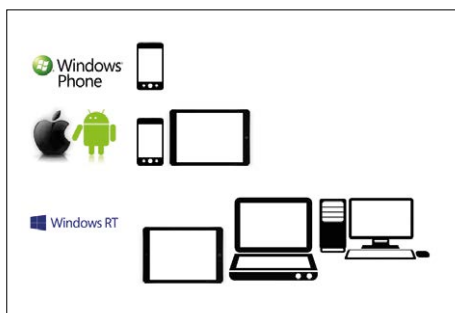

Figure 1. Operating systems for apps and their target platforms.
book) with a current version of the Windows operating system, where it runs more or less in parallel with the conventional Windows desktop OS (**Figure 1**). A characteristic feature of apps is that they focus on a single task. The user interface (UI) is always intuitive and designed for touch operation. Along with functionality, the design and user experience are critical factors (**Figure 2**). Windows 8.1 runs not only on tablets but also on conventional desktop and notebook PCs, which allow external devices to be connected (usually over USB).